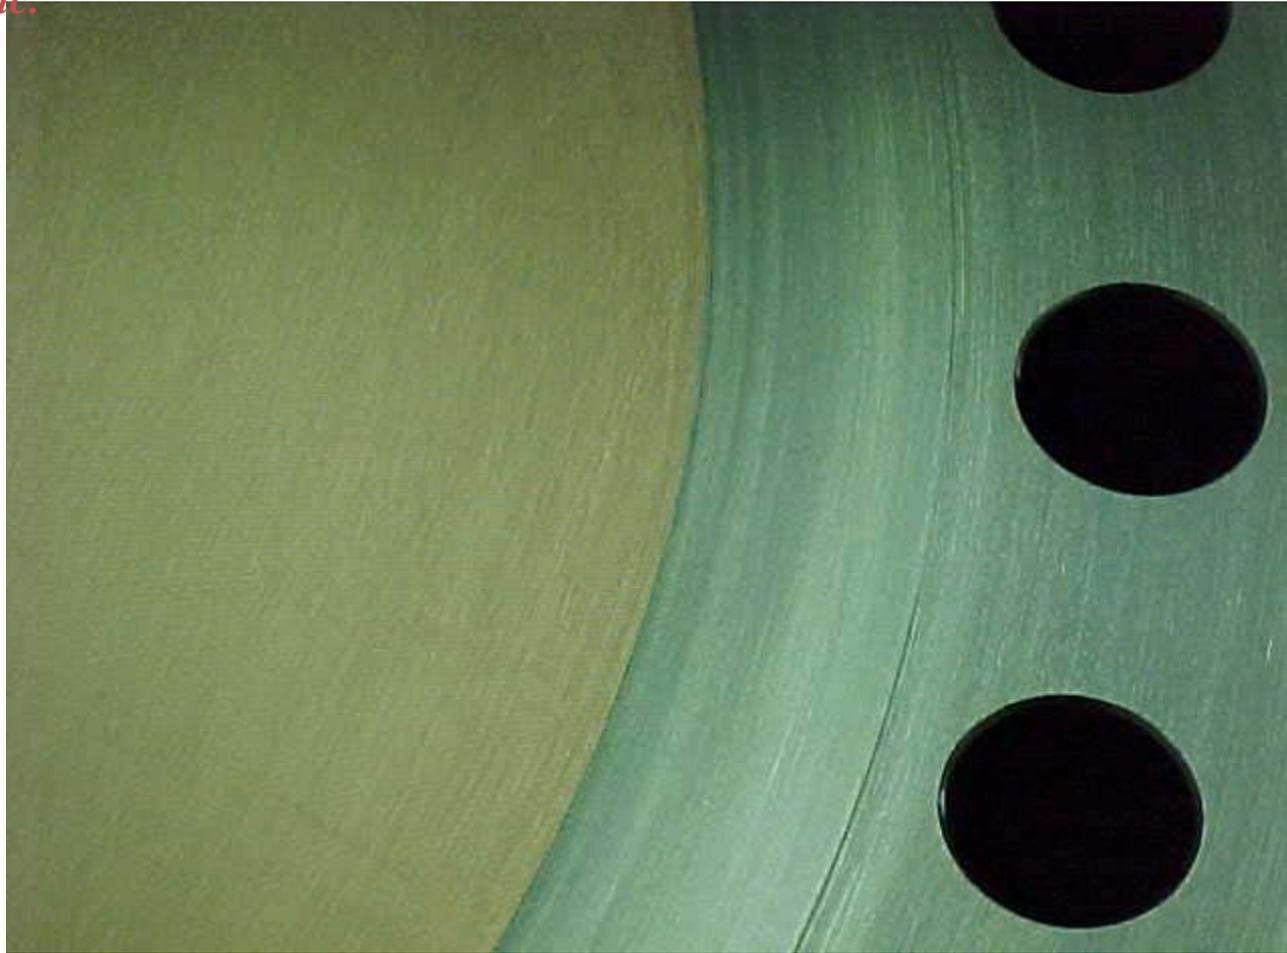

Fig. 1 Turned and polished with Tungsten wire to get low roughness the cavity cover.
- ▶ **The cavity cover SS surfaces contacting the sealing rings were turned and polished with Tungsten wires avoiding radial scratches, Fig. 1.**